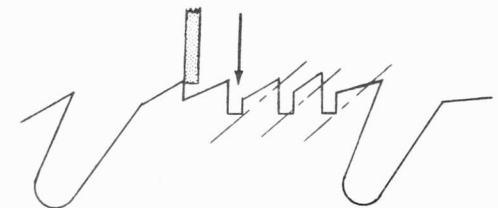

Figure 4
4. Change to $\frac{1}{16}$ " wheel and grind the face, first cutting tooth to new depth. Use the straight edge as illustrated in Figure 4 so that a line running from tooth point on the right to new depth will produce new tooth you desire. Set Feed Screw at this point. Move saw arbor base arm to give cutting teeth 10 degree hook. Grind all cutting teeth, taking care to avoid contact with the tooth points so as to maintain joint.